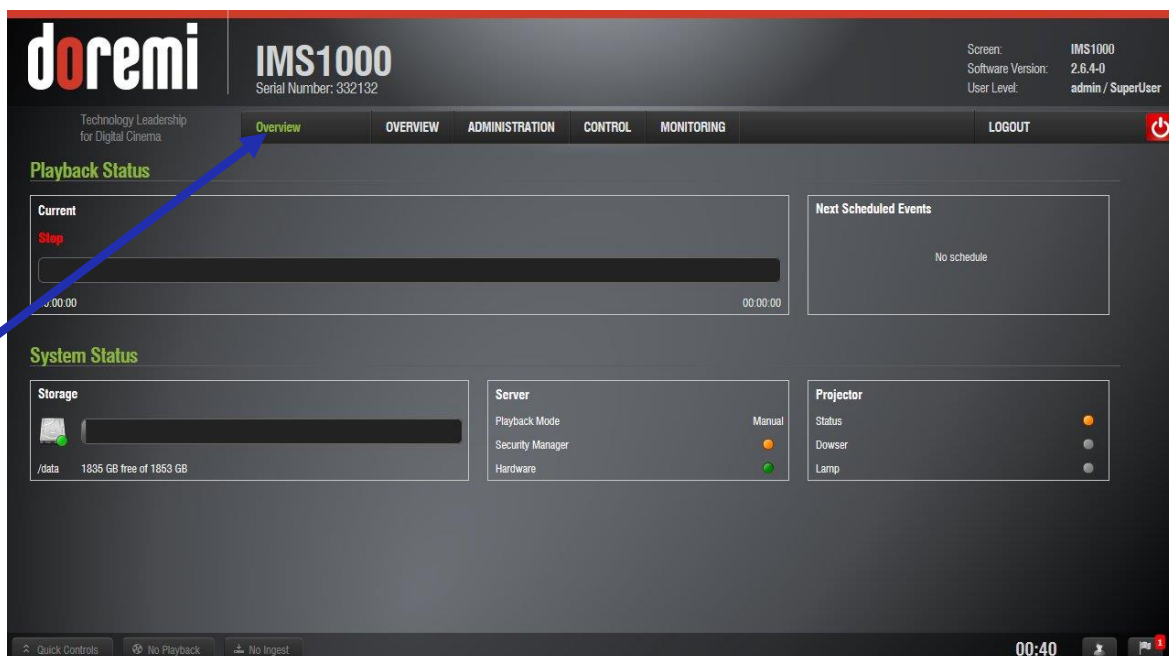

Figure 96: Overview Tab Screen
- The Overview Tab will appear every time the unit is turned on or rebooted. Users can access various applications from the tabs located across the top of the GUI (Figure 96).